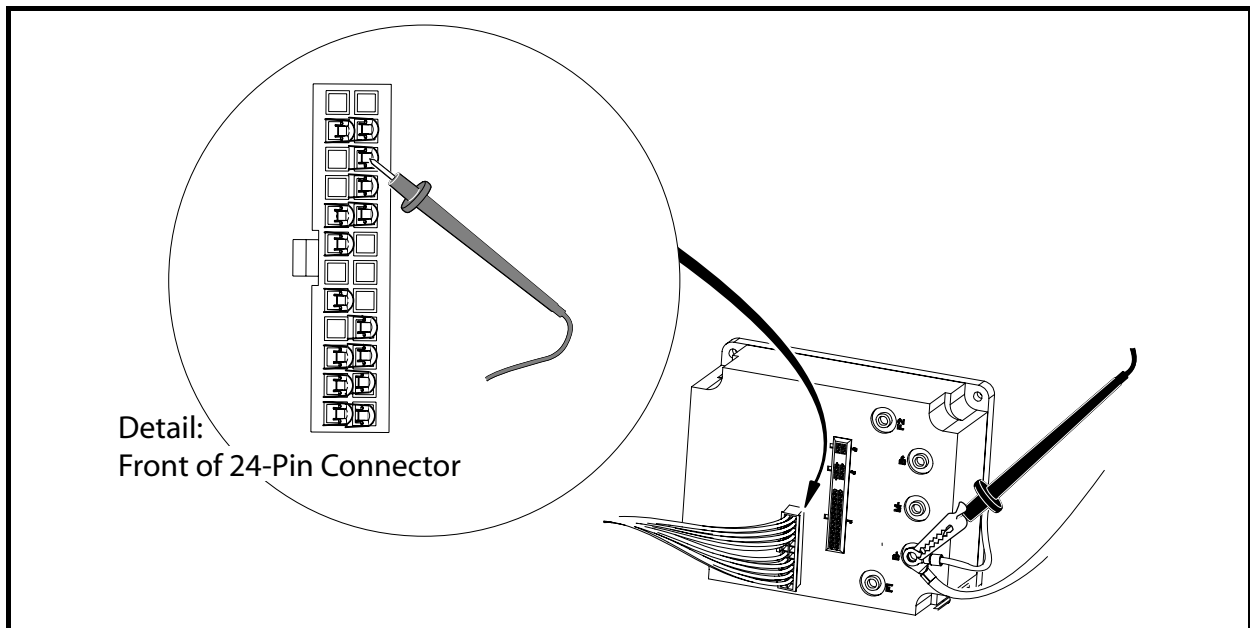

Figure 11-22 Test: Pin 10 (Black Wires)
4. Set a multimeter to 200 volts DC, insert the red (+) probe of the multimeter into pin 10 (brown wire) of the 24-pin connector. **See following CAUTION.** Using an alligator clip, connect the black (–) probe to the B–terminal of the speed controller (**Figure 11-22, Page 11-33**).